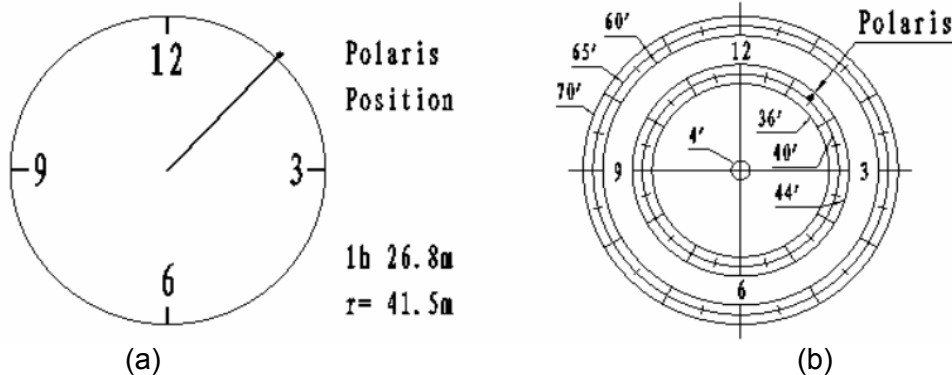

Figure 27. Polaris Position shown on HC (a) and where to put on polar scope reticle (b)
- (3) Adjust the polar scope dial to ensure that 12 o'clock is at the top. You may also use the bubble level indicator if there is one.
- (4) Use the Hand Controller (MENU => “Alignment” => “Pole Star Position”) to display the current position of Polaris on the LCD screen, as indicated in the left side of the figure below. For example, on May 30, 2010, 20:00:00 in Boston, United States (Lat.N42°30'32” and Long.W71°08'50”, 300 min behind UT, DST set to Y), the Polaris Position is 1hr 26.8m and r = 41.5m.
- (5) Look through the polar scope to find the Polaris. Use the Azimuth and Latitude Adjustment Knobs to adjust the mount in both directions and put the Polaris in the same position on the Polar Scope reticle as indicated on the HC display screen. In this case, Polaris will be located at a radius of 41.5 minutes and an angle of 1 hour 26.8 minutes, as shown In Figure 27 (b).